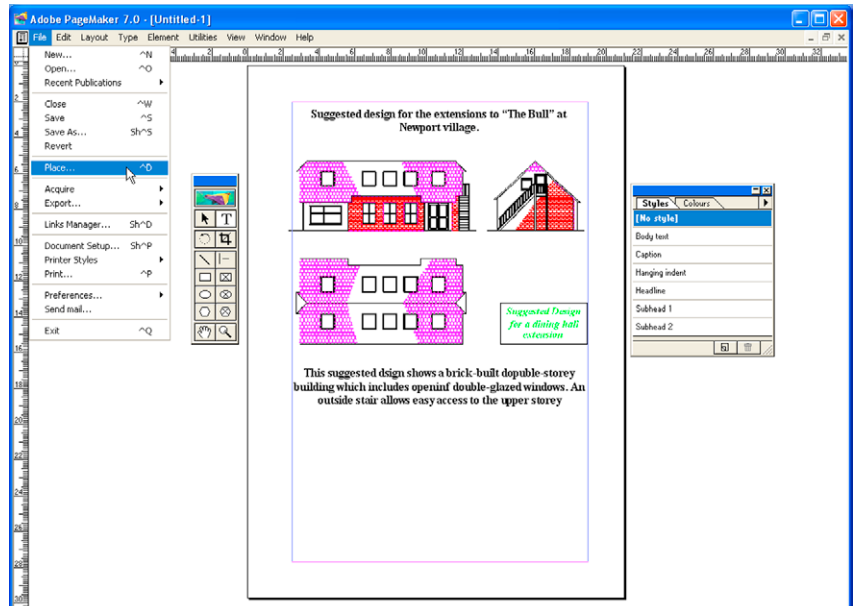

Fig. 10.4 An *.eps file placed in position in a PageMaker document
2. Open a desktop publishing application. That shown in Fig. 10.4 is **PageMaker**.
name and an icon appears the placing of which determines the position of the *.eps file drawing in the PageMaker document (Fig. 10.4).